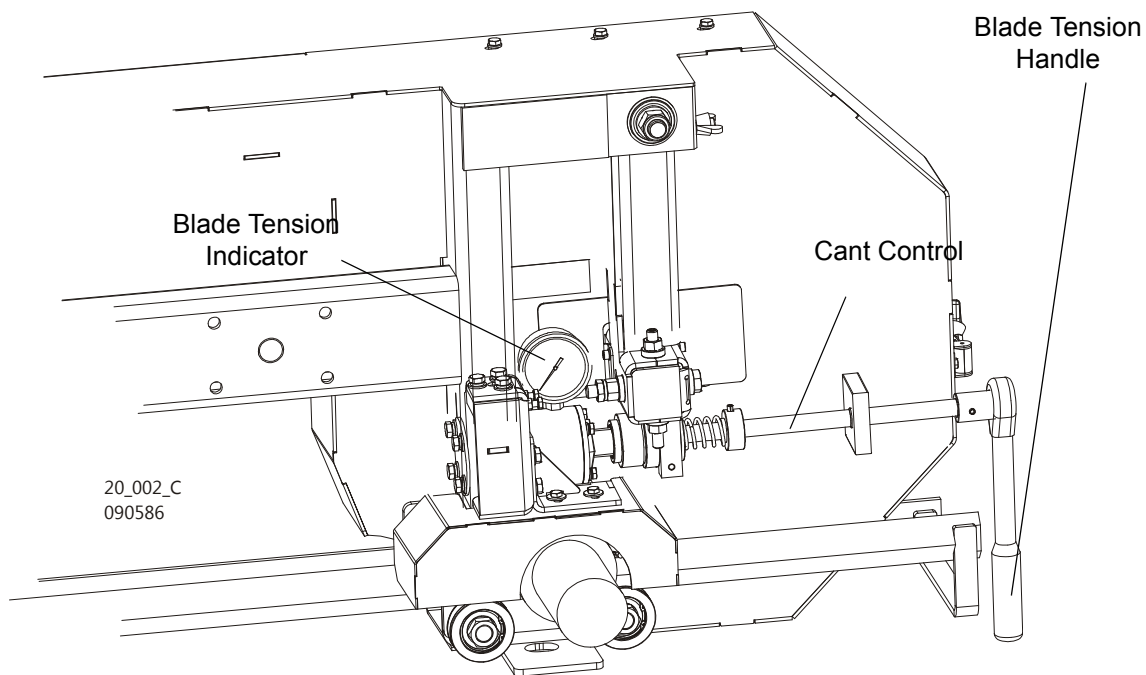

FIG. 2-9
5. Use the cant adjustment bolt, shown in **Figure 2-9** to adjust where the blade travels on the blade wheels.